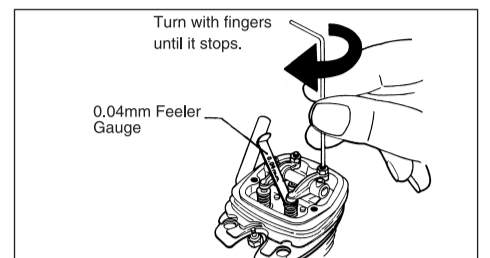

Fig.4
3. Insert 0.04mm feeler gauge between valve stem and rocker-arm and gently turn adjusting screw clockwise until it stops.(Fig.4.)